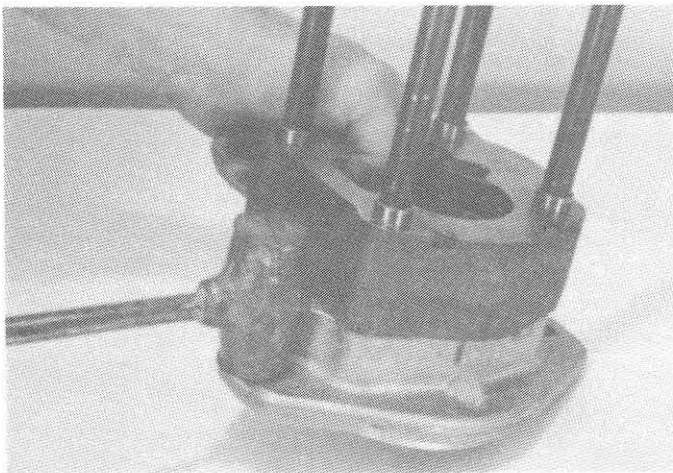

FIG. 15
18. Tap the edges of the gear plate (2) with a plastic hammer to separate it from flange plate (1). An alternate method is to lift both plates slightly off the work surface and tap the ears of the flange plate lightly. (Fig. 15)